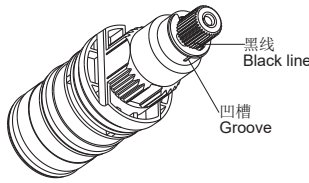

Fig.9
**注意：**确保拆卸、安装过程中不要转动温控阀轴。如不小心转动了阀轴，要调整阀轴使外齿上的黑线标识与相邻的塑料套上的凹槽对齐(Fig.9)，或者按前述方法进行调整。
**NOTE:** Do not turn the cartridge when reinstalling it. If you turned it accidentally, you should adjust it and be sure that the black line is correctly in line with the groove(Fig.9), or readjust as per the steps of verification and setting.